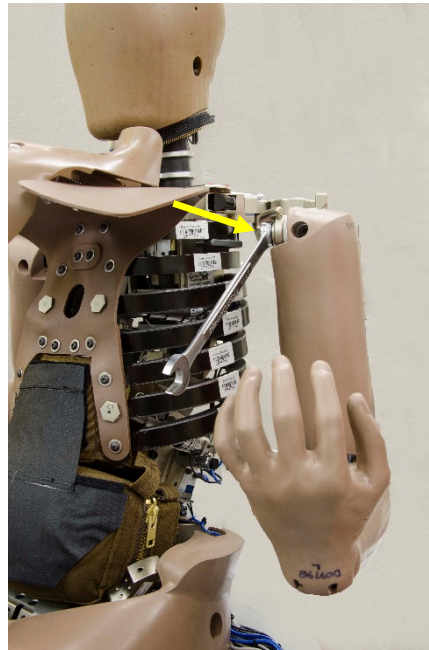

Figure 7-23. Upper arm orientation for setting joint torque about shoulder Y-axis to 1G
- 7.3.1.4 Locate the M12 x 1.75 mm locknut at the medial aspect of the left arm clevis assembly (472-3831), indicated by arrow in Figure 7-23. Straighten the elbow, extend the arm fully forward in the horizontal plane, and rotate the lower arm about the global X-axis to prevent bending at the elbow joint. Adjust the torque on the M12 nut such that the arm remains in this position under its own mass but falls once any additional mass or force is added. If this cannot be achieved, inspect the tabbed washer (472-3838) and replace if damaged. Repeat for right arm.